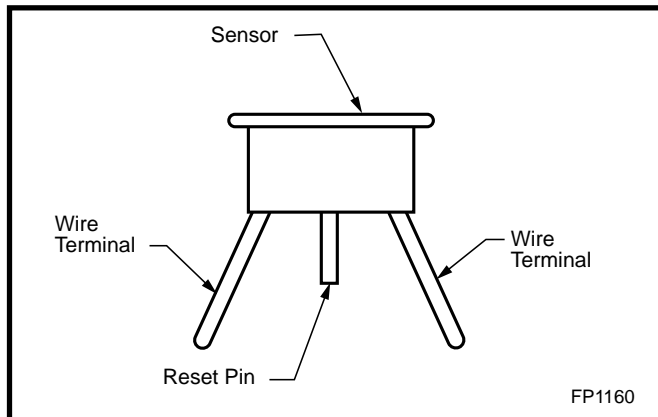

Fig. 18 Vent Safety Switch.
- Reset the sensor by pressing the reset pin between the two wire terminals. (Fig. 18)